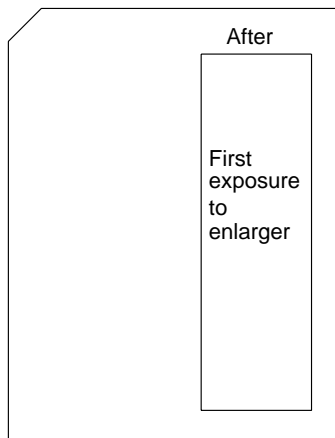
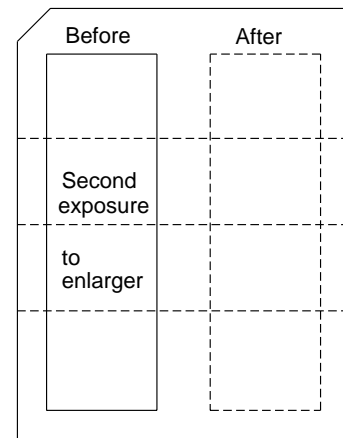

Figure 1
Figure 3
1. Set up the enlarger. Insert the negative carrier with no negative in it into the enlarger. Set up the easel with a mask to expose an area as shown in Figure 1, below.
4. Make the first enlarger exposure. *All* the lights should be off. For orientation, cut a corner from a fresh sheet of the photographic paper, and position the paper under the mask (see Figure 1). Expose the paper, using the time and aperture you determined in step 3. Label this area "After" to indicate safelight exposure that occurs *after* the enlarger exposure.
6. Make the second enlarger exposure. With the paper oriented as in step 4 (Figure 1), position the marks to expose the opposite side of the paper. Give this area an exposure identical to the one given in step 4. Label this area "Before" to indicate safelight exposure that occurs before the enlarger exposure. (See Figure 3.)